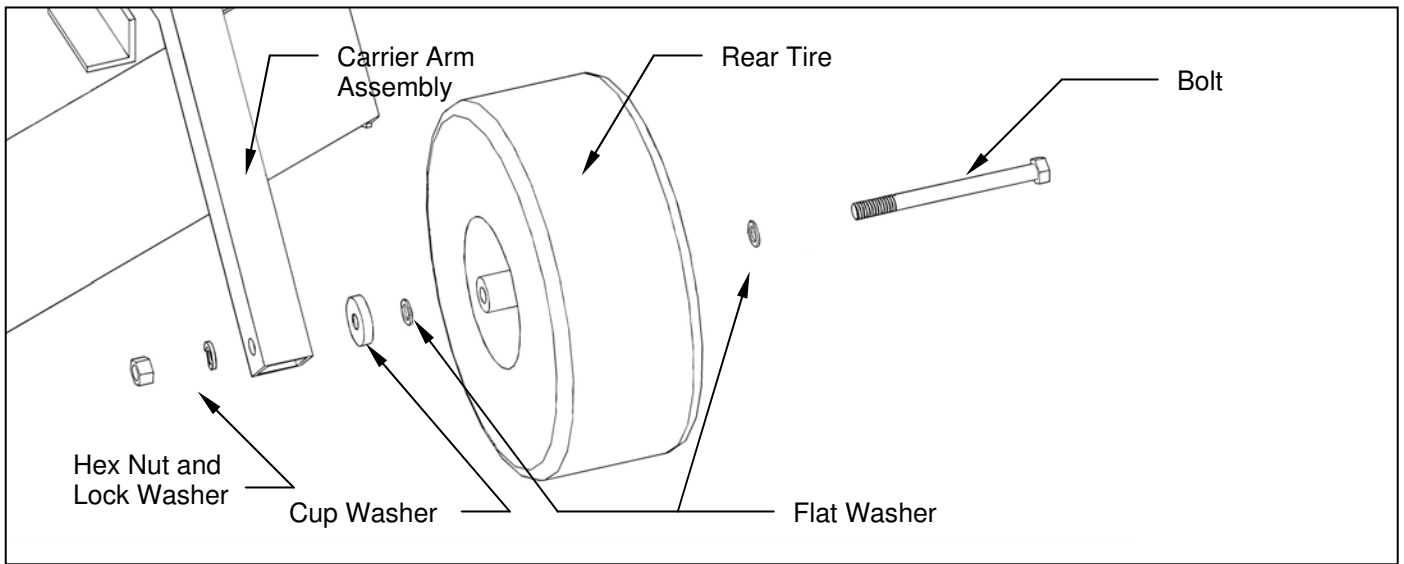
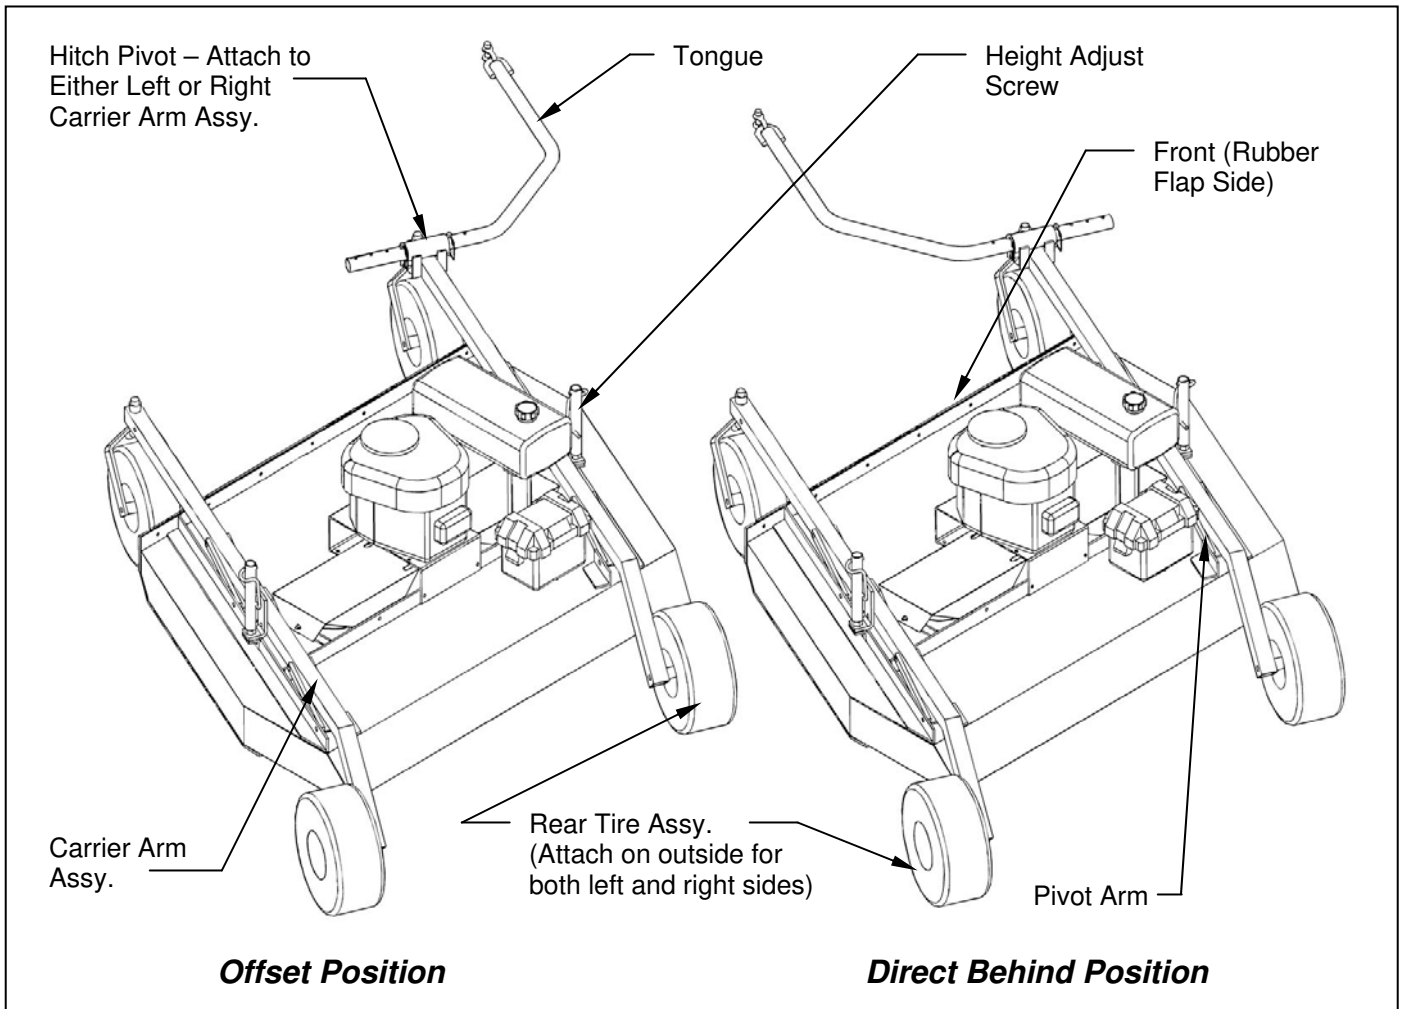

Figure 1: Rear Tire Assembly Installation
Figure 2: Assembly of Carrier Arm Assy., Hitch Pivot, and Tongue
2. Install the rear tire assemblies on the carrier arm assemblies. Remove the hex nut and lock washer from the rear tire assembly and install the 5/8"x7-1/2" tire axle bolt through the hole in the carrier arm assembly. **See figure 1.** Secure assembly with the lock washer and hex nut provided on the rear tire assembly. The rear tires should be offset to the outside of the deck assembly on both sides. **See figure 2.**
3. Install the two carrier arm assemblies in the pivot arms, which are located on the mower deck assembly. Place the assembly so that the casters are on the front and the fixed tires are on the back. **See figure 2.** Secure with 1/2" x 3-1/2" hex head bolts and lock nuts provided on the pivot arms. Mount the height adjust screw on the deck assembly in the hole provided. Secure with the 1/2"x1" hex head bolt and lock nut provided on the height adjust screw.
1. The tongue can be installed either on the left or right caster assembly depending on how the tow-behind mower will be towed. **See figure 2.** Secure the hitch pivot on the chosen caster assembly with the 1/2" x 3-1/2" hex head bolt, lock washer, and nut provided.
Note: When pulling the mower directly behind, the hitch pivot should be fastened on the right carrier arm for maximum maneuverability. **See Figure 2.** When pulling the mower in the offset position the hitch pivot can be fastened on either the right or left carrier arm. **See Figure 2.**